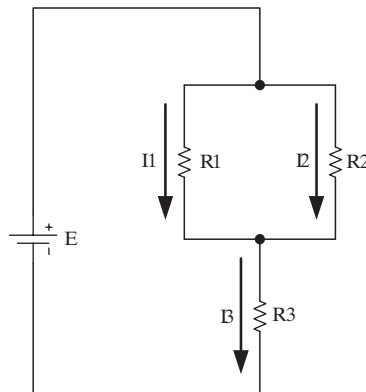

Figure 4.67
9. Use Kirchhoff's Laws to develop three equations to solve for the three currents (I_1 , I_2 , I_3) indicated in Figure 4.67. The known quantities are as follows: